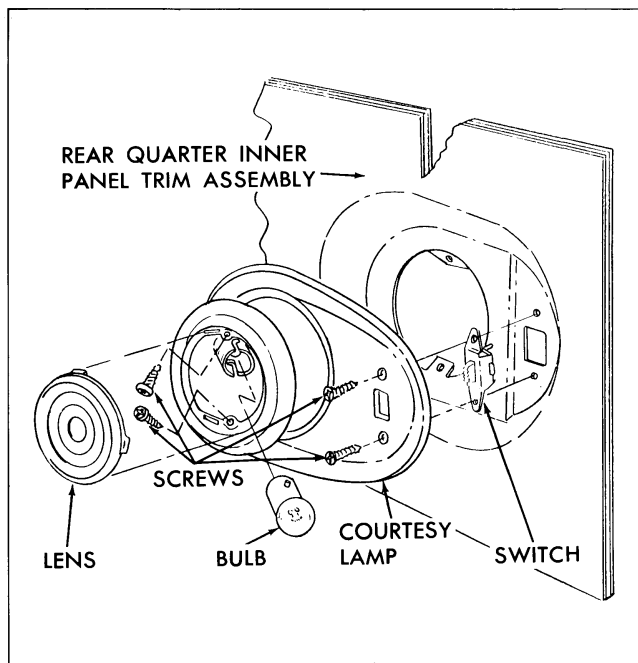

Fig. 4-14 Rear Quarter Courtesy Light
1. On 45 styles, remove screws securing courtesy lamp and switch assembly to trim panel and carefully remove assembly sufficiently to disengage wires at rear of lamp and switch. Remove rear finishing panel (Fig. 4-14).